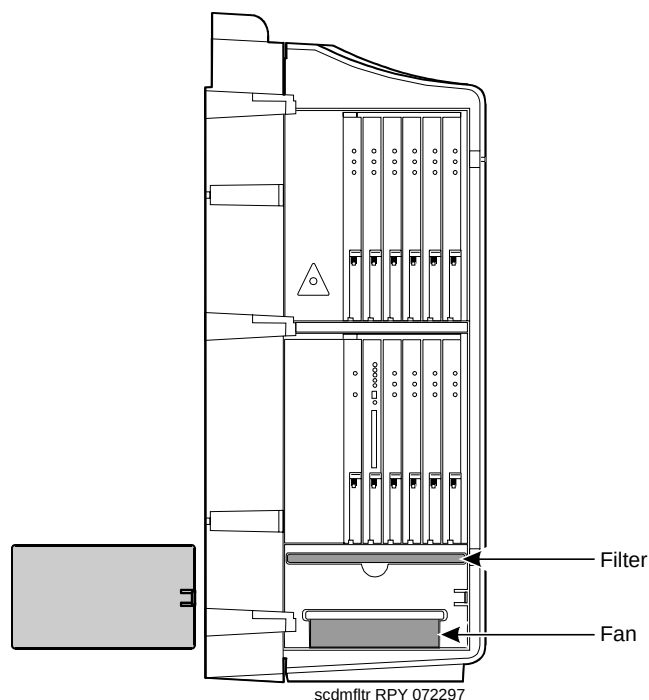

Figure 2-1. Fan/filter removal
No facility exists for washing or vacuuming	Replace air filter (Comcode 407745009). Refer to Figure 2-1 for more information on air filters and fans.
2. Remove the fan/filter access panel. See Figure 2-1.